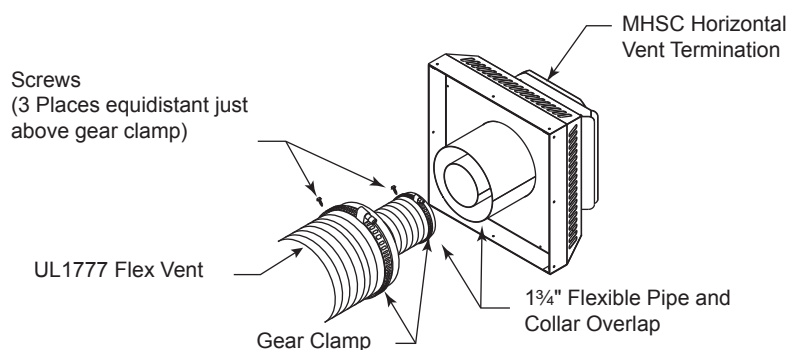

**Figure 30 -
1. Connect the 5" flexible vent to the horizontal termination as in *Figure 30*.
2. Connect the 8" flexible vent to the termination ring as in *Figure 30*.
3. Review *Figure 30* for proper overlap and clamp placement.
5. Use only listed and approved terminations and accessories, installed per the termination instructions and *Figure 30*.